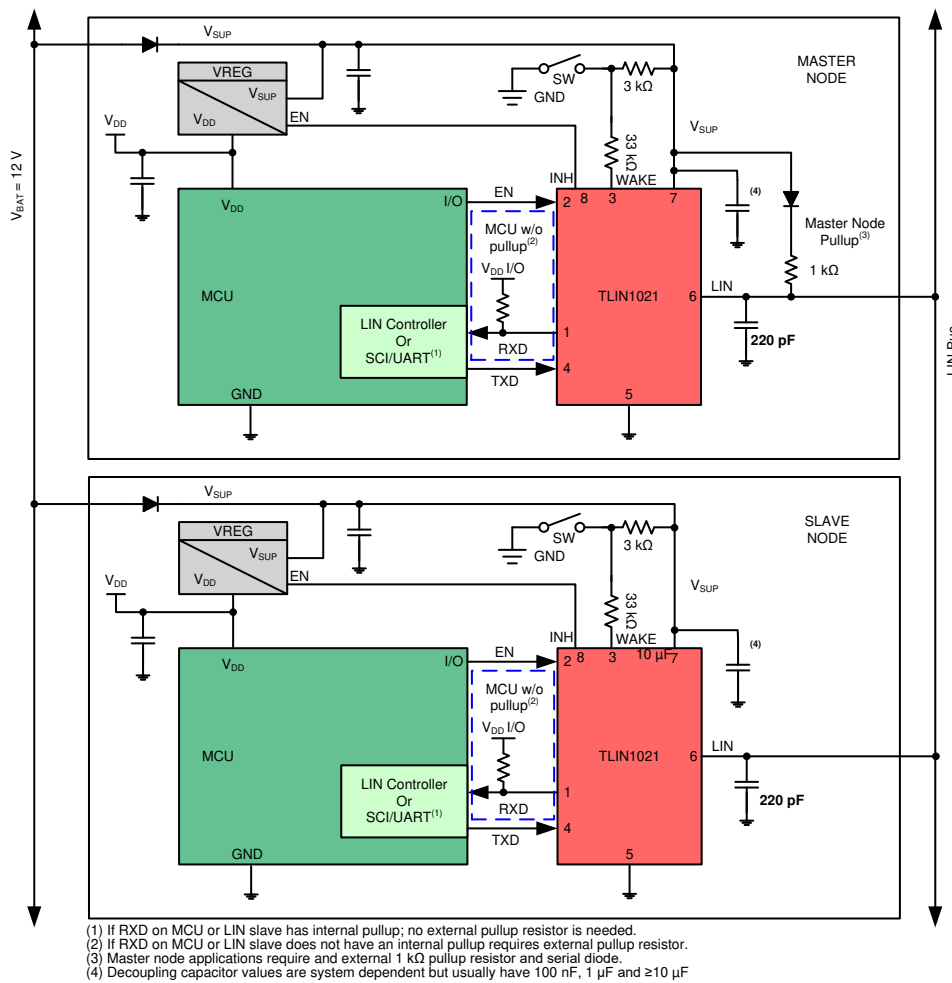

Figure 31. Typical LIN Bus
- **Pin 2 (EN):** EN is an input pin that is used to place the device in low-power sleep mode. If this feature is not used the pin should be connected to the supply voltage for the controller through a series resistor using a pull-up value between 1 kΩ and 10 kΩ. Additionally, a series resistor may be placed on the pin to limit current on the digital lines in the case of an over-voltage fault.
- **Pin 6 (LIN):** The LIN pin connects to the TLIN1021-Q1 to the LIN bus. For slave applications a 220 pF capacitor to ground is implemented. For master applications an additional series resistor and blocking diode should be placed between the LIN pin and the V_{SUP} pin, see Figure 31.